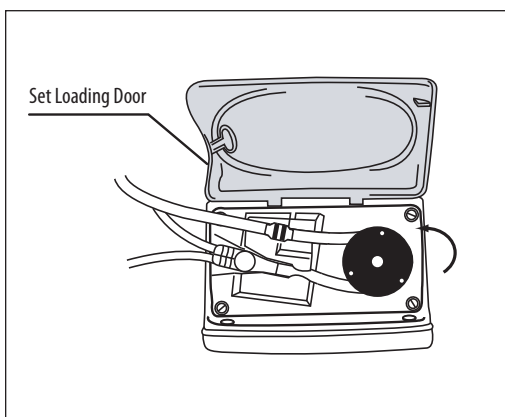

Figure 6B.
3. Grasp the MISTIC retainer end (black ring retainer) and wrap the tubing counterclockwise around the rotor. (Figure 6B)
4. Carefully pull the MISTIC retainer end left and upwards to position it over the slot on the left, and then lower the retainer into the slot. Push down on the retainer then release to ensure proper engagement. (Figure 6B)